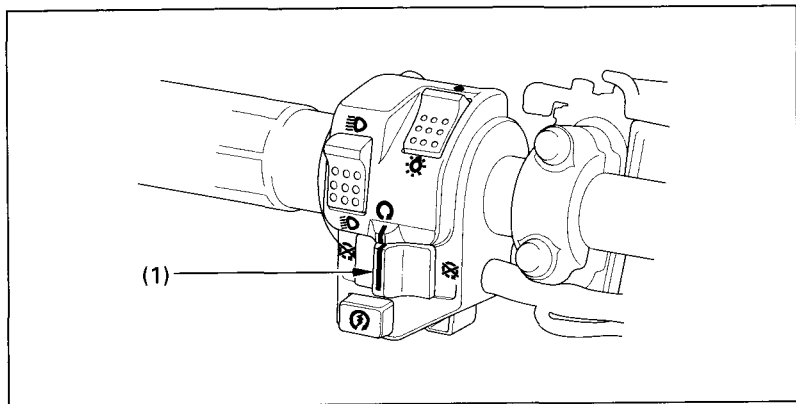

Fig. 2-5
The engine stop switch (Fig. 2-5) is next to the left handgrip, and it has three positions. When the switch is in the RUN (O) position, the engine will operate. When the switch is in either OFF (X) position, the engine will not operate.